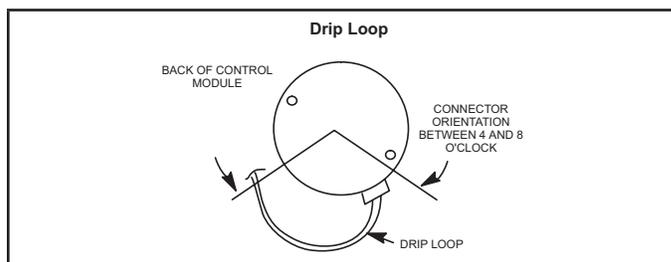

FIGURE 21
- 5 - The electrical connectors of the motor should be facing down to form a drip loop (FIGURE 21). This will direct moisture away from the motor and its electric connections on the motor.